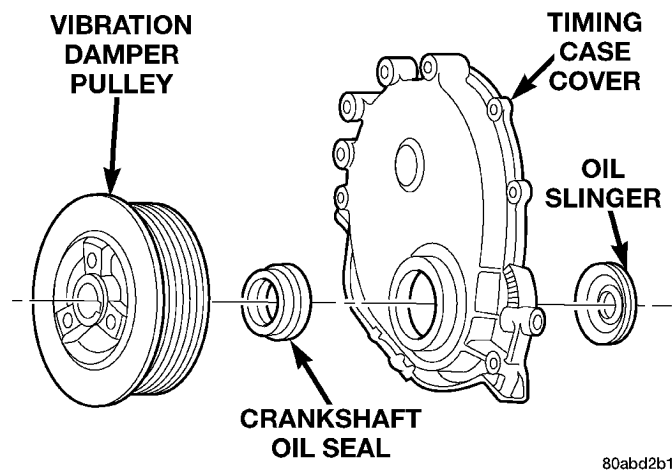

Fig. 40 Timing Case Cover Components
- (1) Disconnect negative cable from battery.
- (2) Remove the vibration damper.
- (3) Remove the fan and hub assembly and remove the fan shroud.
- (4) Remove the accessory drive brackets that are attached to the timing case cover.
- (5) Remove the A/C compressor (if equipped) and generator bracket assembly from the engine cylinder head and move to one side.
- (6) Remove the oil pan-to-timing case cover bolts and timing case cover-to-cylinder block bolts.
- (7) Remove the timing case cover and gasket from the engine. Make sure the tension spring and thrust pin do not fall out of the preload bolt.
- (8) Pry the crankshaft oil seal from the front of the timing case cover (Fig. 40).